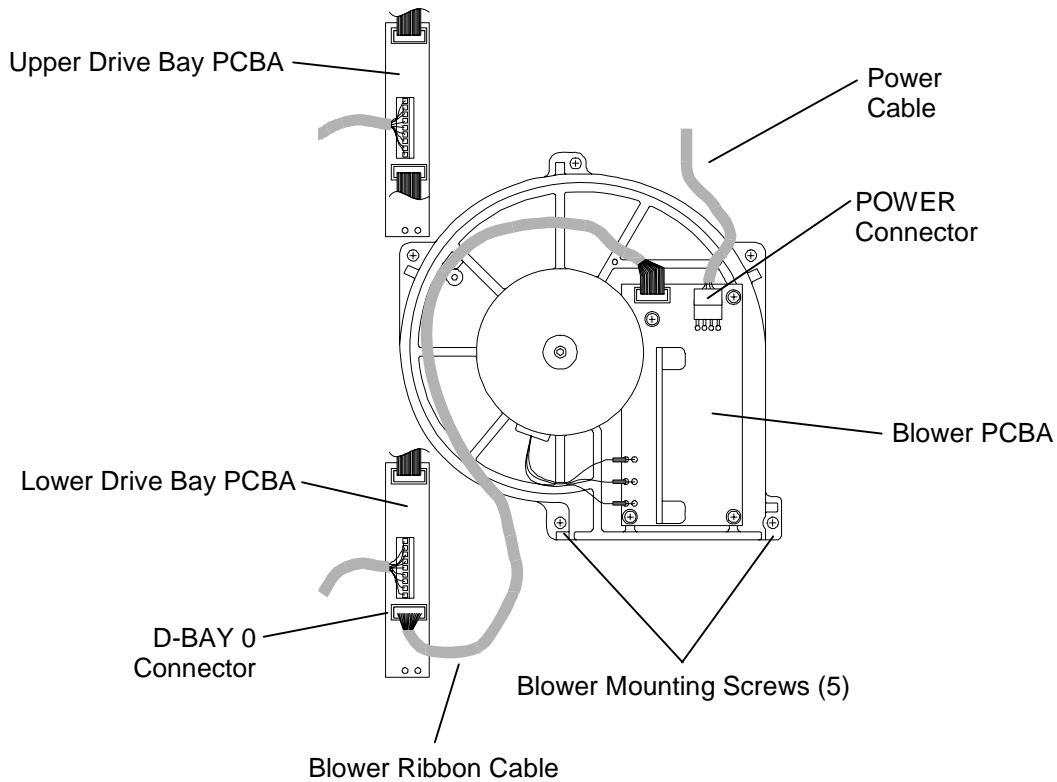

Figure 7-26 Blower Assembly
5. Disconnect the Power cable from the POWER connector on the Blower PCBA. See Figure 7-26.
6. Disconnect the Blower ribbon cable from the D-BAY 0 connector on the lower Drive Bay PCBA. See Figure 7-26.
7. Using a long bladed Phillips screwdriver, remove all five of the Blower mounting screws. Make sure to support the Blower Assembly with your free hand to prevent it from falling. See Figure 7-26.
4. Plug the Blower ribbon cable into the D-BAY 0 connector on the lower Drive Bay PCBA. See Figure 7-26. Note that the connector is keyed.
5. Plug the Power cable into the POWER connector on the Blower PCBA. See Figure 7-26.